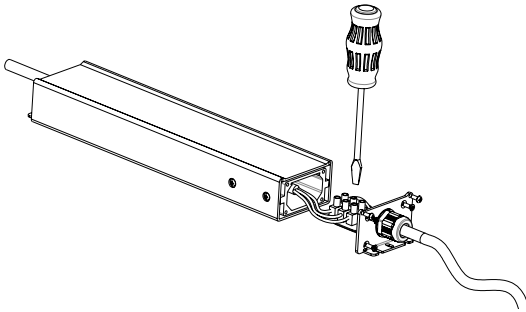

Figure 10: Tripix IP66 power input connections
1. Unfasten all the screws on the input side cover and lift the cover away from the housing as shown in Figure 10.